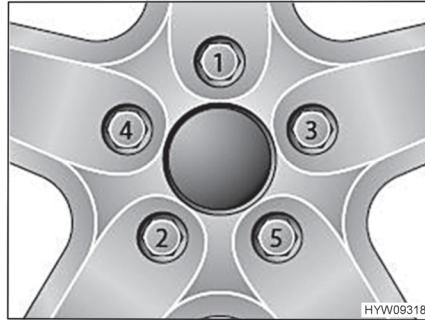

Fig. 229 Tightening the wheel nuts or wheel bolts cross-wise
- Tighten the wheel nuts or wheel bolts in the order shown in Fig. 229. In order to do this, use a torque wrench and comply with the specified tightening torque (see section 13.5.2).
- Check regularly that the wheel nuts or wheel bolts are firmly seated. Re-tighten the wheel nuts or wheel bolts of a changed wheel after 50 km (30 miles). While doing so, proceed in the order shown in Fig. 229.
- When using new or newly painted rims, re-tighten the wheel nuts or wheel bolts once again after approx. 1,000 to 5000 km (600 miles to 3,000 miles). While doing so, proceed in the order shown in Fig. 229.
- ▷ Tighten the wheel nuts or wheel bolts cross-wise (Fig. 229).